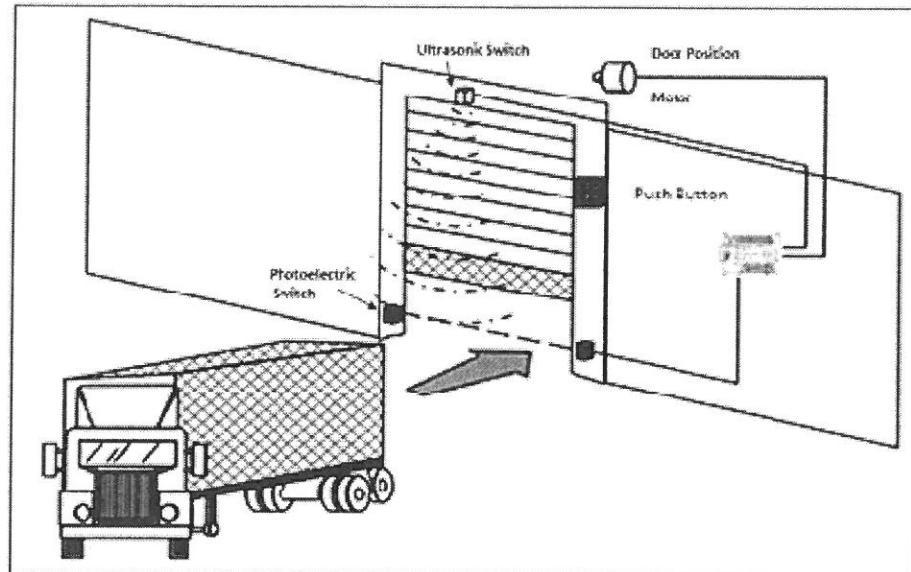

Figure 4 (b) / Rajah 4(b)
- (b) Based on Figure 4(b), the input ultrasonic switch is employed to detect the presence of an approaching vehicle. A separate photosensors detects the passing of a vehicle via the interruption of the light beam. In the response to these signals, the control circuit controls the output that drive the motor of the shutter door for opening and closing. Construct a program for the system using ladder diagram.